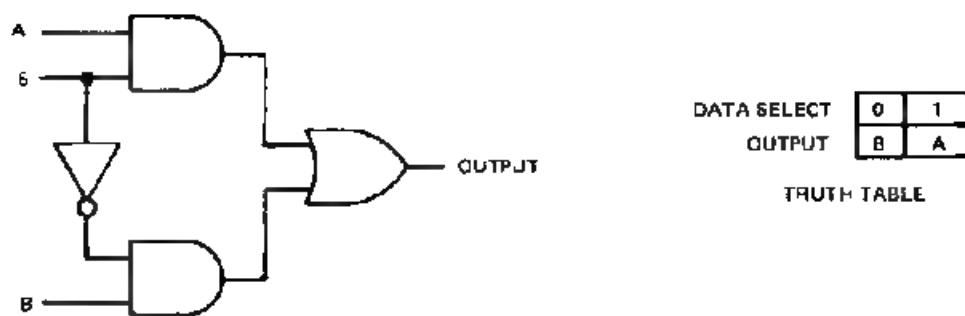

Figure 2-22. Basic Two Input Two-to-One Multiplexer
2-84. It is important to understand how the multiplexers function, so we have included a brief discussion of basic multiplexer operation. Figure 2-22 is the schematic of a basic two input two-to-one data multiplexer. When the data select line (S) is high, the signal at the A input is reflected at the output. When S is low, signal B appears at the output and not A. The multiplexers used to address the ROM are nothing more than elaborations of the foregoing theme. The ROM requires multiplexers which can select one of two four-bit words.